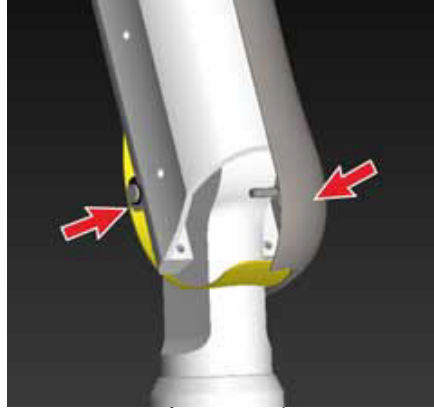

Figure 76
- Take end cap of one side (half) and fix to the scissor-arm such that the rubber part should be aligned in the slot as shown in Figure 76.